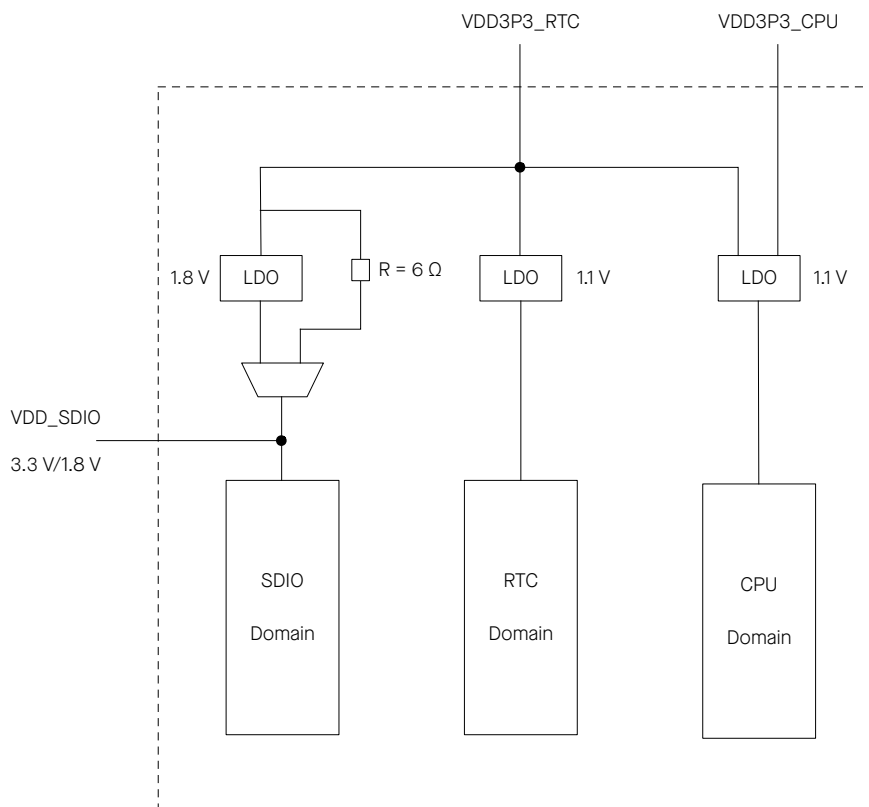

Figure 2-3. ESP32 Power Scheme
The power scheme is shown in Figure 2-3 ESP32 Power Scheme.
- As the in-package flash/PSRAM in ESP32-U4WDH/ESP32-D0WDR2-V3 operates at 3.3 V, VDD_SDIO must be powered by VDD3P3_RTC via a 6 Ω resistor. See Figure 2-3 ESP32 Power Scheme.